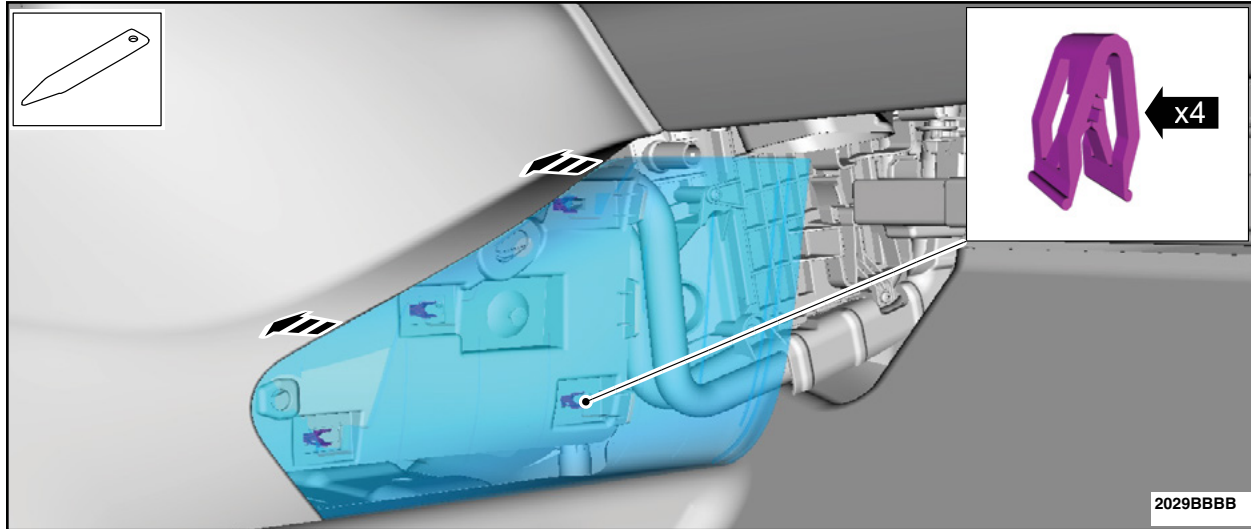

FIGURE 14
17. Install the RH trim panel. See Figure 14.